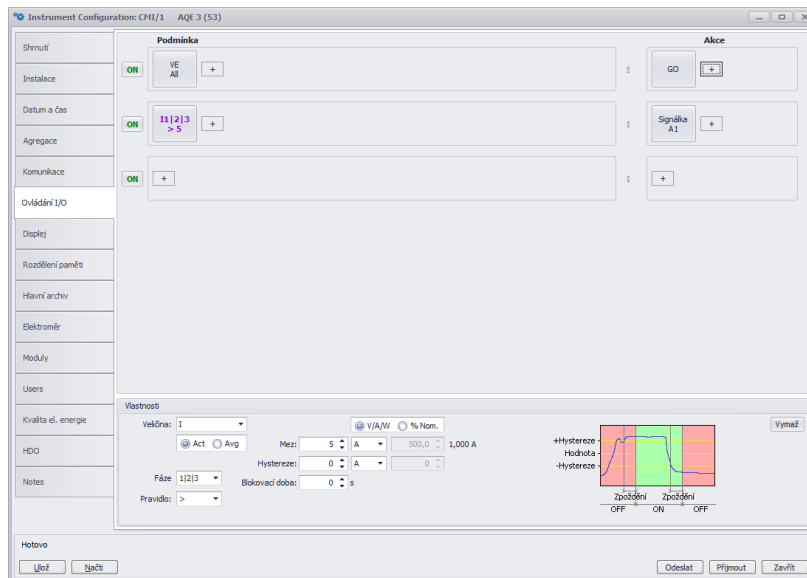

Figure 13: ENVIS.Daq - configuration of programmable inputs and outputs behavior.
2.4.5 I/O Management (fig. 13)